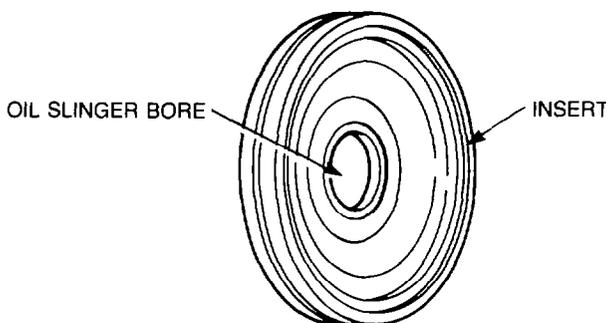

Figure 148 — Insert
- l. Inspect the insert oil slinger bore for signs of scratching or scoring (see Fig. 148) and replace as necessary.